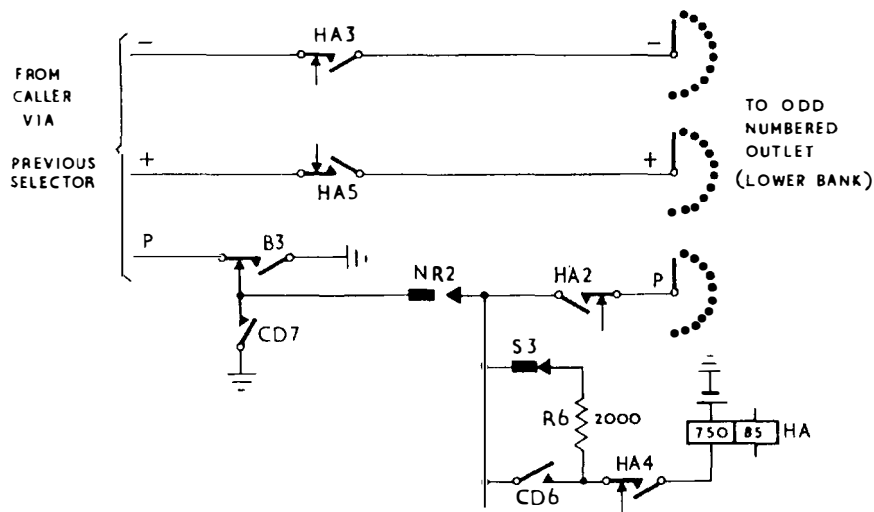

FIG. 18. THROUGH CONDITION - ODD OUTLET SELECTED.
**4.7 ODD OUTLET FREE, EVEN OUTLET BUSY.** During the first rotary step, NR springs re-operate relay CD. The rotary magnet operating earth is transferred via CD3 and NR1 to the rotary interrupter springs RM1. During the period that the RM1 springs are operated, relays HA and HB test the P1 and P2 outlets via the 85 ohm windings. As the even outlet is assumed busy, earth on the P2 contact short circuits relay HB and prevents its operation. If the odd contact is free, there is no short circuiting earth and relay HA operates on its 85 ohm winding from the magnet alarm earth to negative behind the 390 ohm resistor. The rotary magnet drive circuit is disconnected at HA1, the HA relay holds on its 750 ohm winding via HA4, and the negative, positive and private wires are extended to the selected outlet via HA3, HA5 and HA2 respectively. The calling loop is extended through to next selector. Relay A in the switched selector releases and at A1 releases relays CD and B. During the slow release of these relays contact B3 maintains an earth on the incoming private and CD7 holds relay HA. A guarding and holding earth is returned on the private wire from the next selector to hold this and previous selectors after the final release of relays B and CD. When contact CD6 restores, an additional resistance of 2000 ohms is inserted in the holding circuit of relay HA. This reduces the holding current to approx. 20mA and ensures a fast release at the end of the call. During conversation, the only relay operated is relay HA. Fig. 18 shows the switched through condition.
**4.8 EVEN OUTLET FREE, ODD OUTLET BUSY.** The outlet testing circuit is prepared as described in para. 4.7. If the odd outlet is busy, the 85 ohm winding of HA is short circuited and relay HA does not operate. If the even outlet is free, the alarm earth via the operated interrupter springs operates relay HB on its 85 ohm winding. Relay HB holds on its 750 ohm winding via HB4, disconnects the rotary magnet operating earth at HBI and switches the negative, positive and private wires through to the selected outlet via HB3, HB5 and HB2 respectively. Relay A releases, followed by CD and B. An earth is returned on the private wire from the next selector during the release time of relays B and CD. After the release of relay CD, a 2000 ohm resistor is included in the hold circuit of relay HB in the same manner as shown for the odd outlet in Fig. 18.